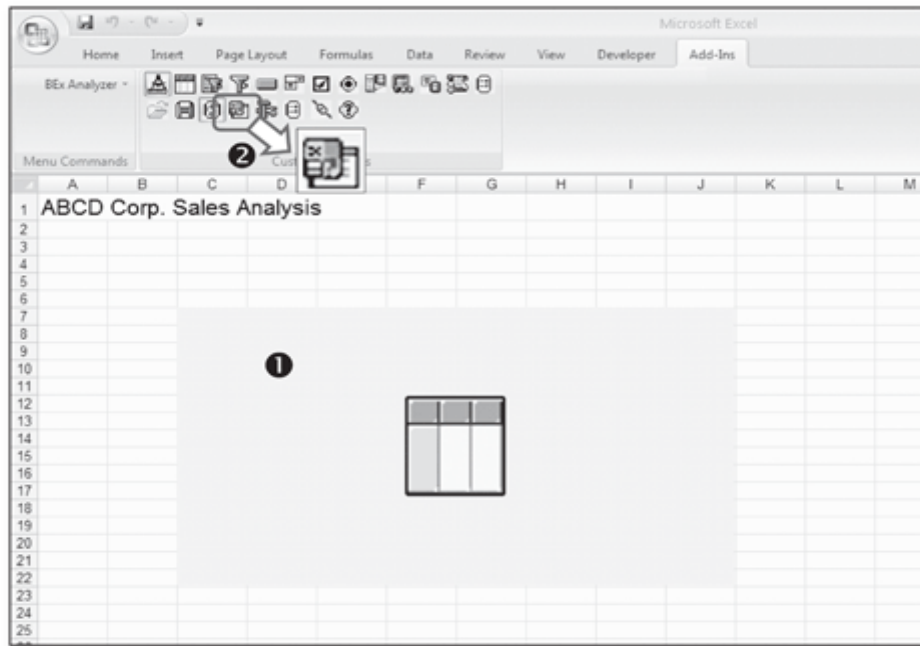

Figure 10.31 Maintain Variable Values
5. If the query assigned to the data provider in the analysis grid (1 of Figure 10.31) contains some user entry variables, you must maintain these variables. To do this, click on the Variables button (2) on the Analysis toolbar. This shows you the screen where the values for those variables can be maintained.